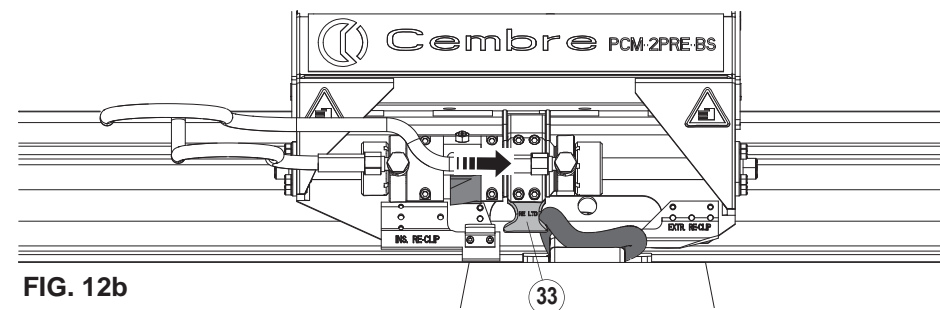

FIG. 12b
- Pull the control lever (07) to the left in **"EXTRACT"** position: to gradually move the teeth forwards with consequent extraction of both RE-clips (see Fig. 12b and 12c). When performing the extraction operation, each clamps teeth (33) will move in opposite directions.